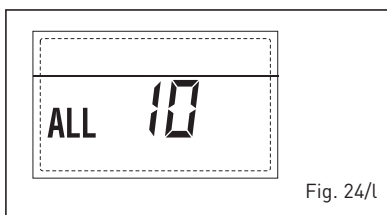

Fig. 24/l
- ANOMALIA MODULATORE "ALL 11" (fig. 24/m)